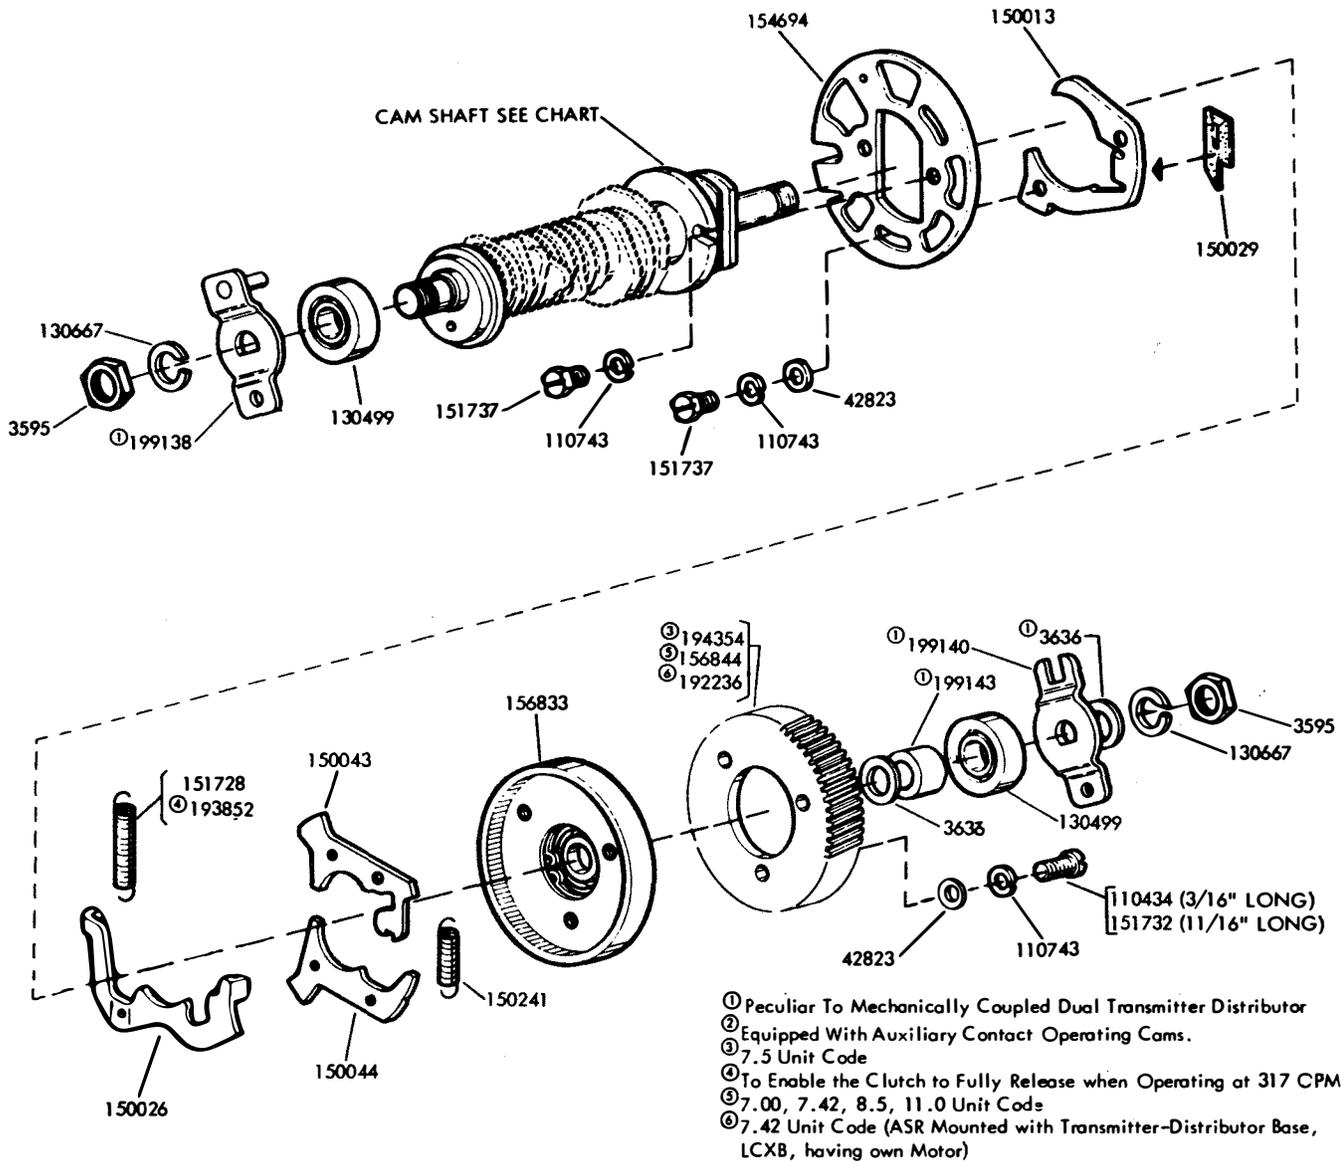

Figure 7-13. Main Shaft Mechanism (One-Cycle)
- ① Dimension "A" is 2.159 inches
- ② Peculiar to units equipped to detect a notch in edge of tape
- ③ Peculiar to mechanically coupled dual transmitter distributor
- ④ Dimension "A" is 2.359 inches
- ⑤ 174309 Modification Kit to convert an LXD4 to on LXD15. Also includes 176607, 174349 and 160647 as shown on Figure 7-13. (Specification 500875)